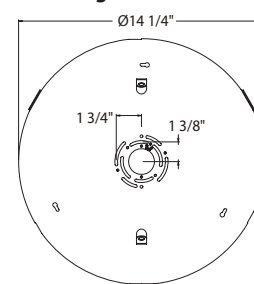

Fig. 2 Extension Rod
### MOUNTING THE FIXTURE (Fig. 1, Fig. 2, Fig. 4, Fig. 5)
3. Remove the mounting screw (B) from the canopy, take down the mounting plate.
4. If needed, choose number of square extension rods suitable for your hanging height (Fig. 2). Unscrew all the nipples and fixed post. Screw the long nipple to the loop then put the rod on it. Secure the fixed post into the rod until level with the rod. Continue to install other rods then secure the short nipple back in the end. Note that both feet of loop should be extended the same length.